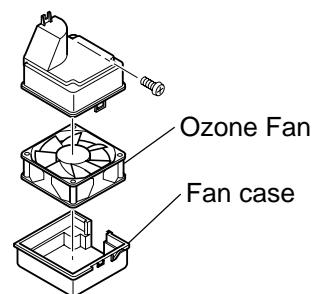

Fig.7-21
- 3) Remove the ozone fan from the fan case. (Fig.7-21)